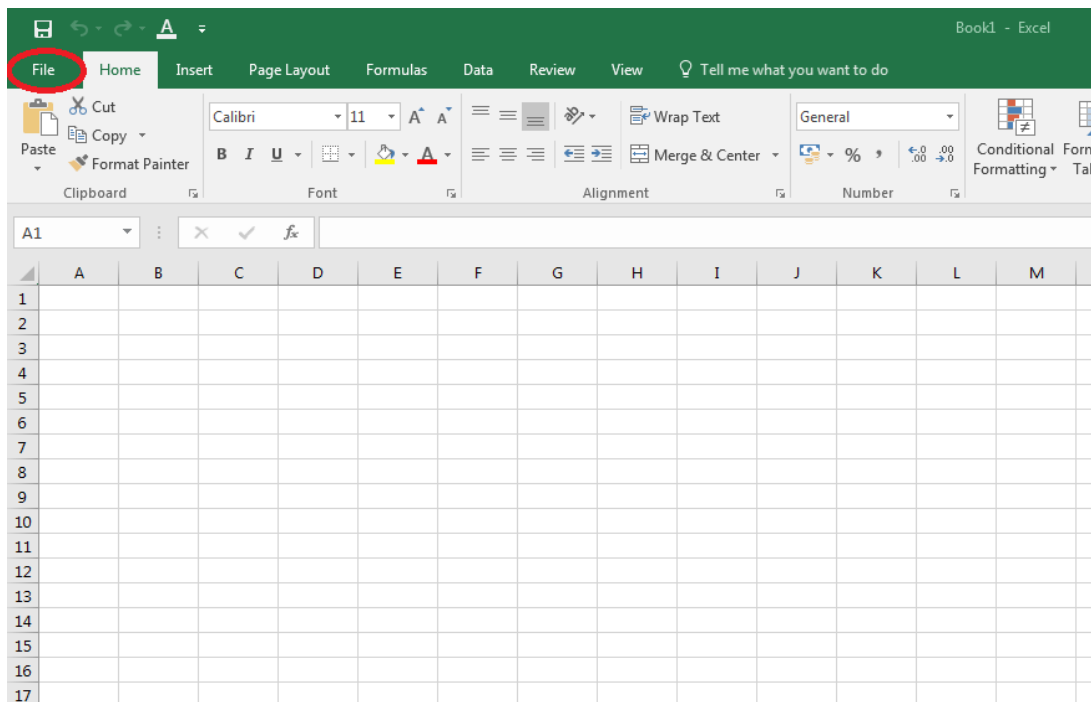

Figure 2.1: Registering FluidEXL *Graphics* as Add-In in Excel® 2016
- Click the "File" button in the upper left hand corner of Excel® (see Fig. 2.1)